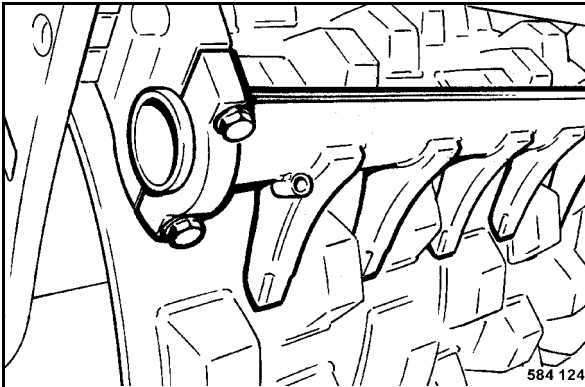

Fig. 190
- Check adjustment and condition of scrapers (Fig. 190), adjust or replace the teeth if necessary.